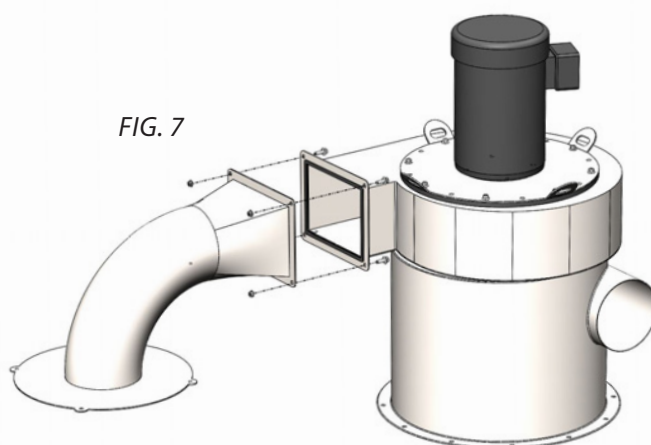

FIG. 7
- 7 Attach the Plenum Elbow (C) onto the outlet of the Fan Blower Assembly (A) with four 5/16-18 x 1" bolts (M3A), and four 5/16" whiz-lock nuts (M3B) as shown in [FIG. 7].